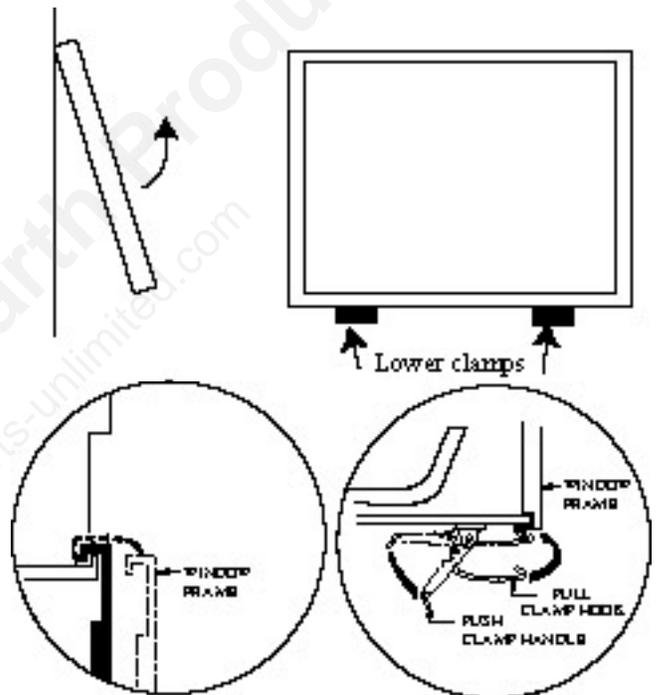

Fig. 36
- 5 Release the two clamps securing the lower edge of the frame by pulling down on the handles, Fig. 36.